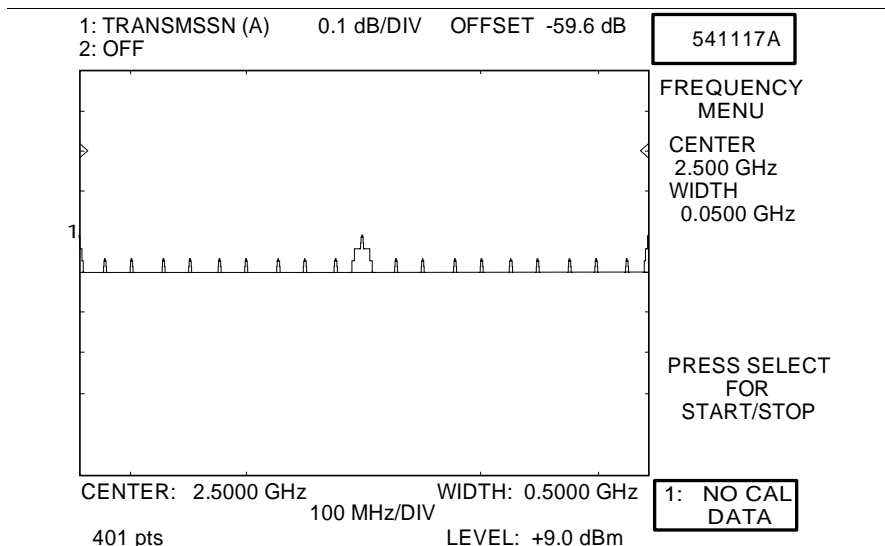

Figure 6-10. Special Markers Mode Display
Step 13. When self test completes, the display should resemble that shown in Figure 6-10.
Step 26. If fitted, adjust the 500 MHz I/F tracking potentiometer R21 (Figure 6-9) to obtain all marker with no spurious, as observed on the 541XXA display (Figure 6-10).